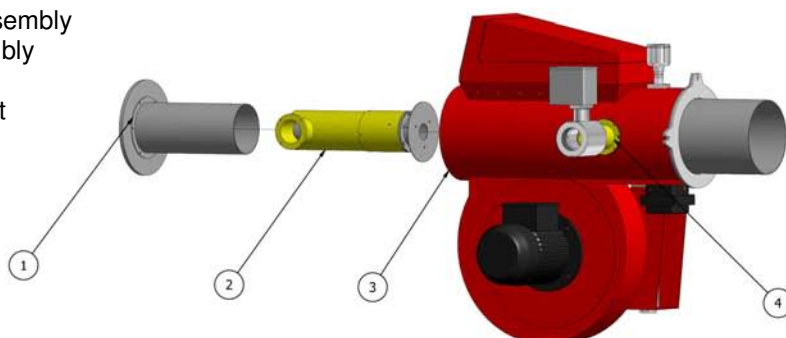
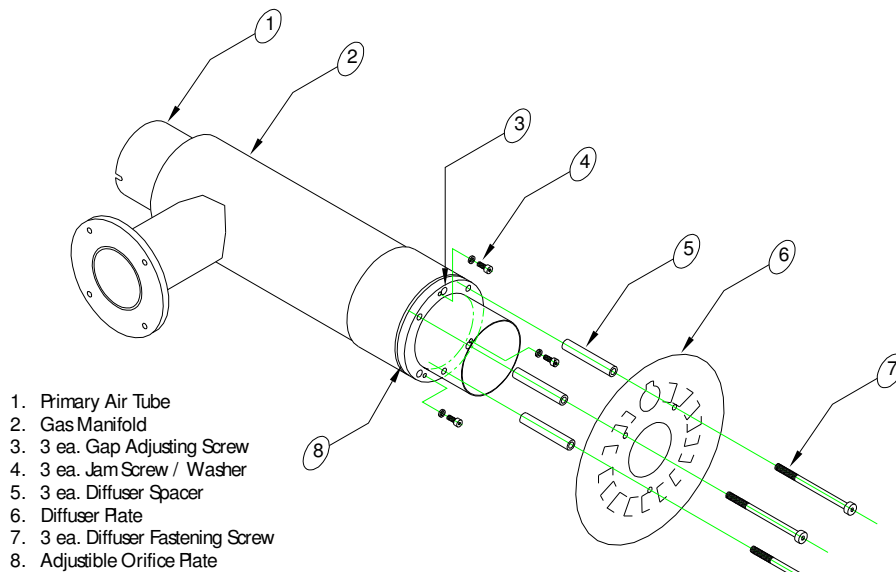

Figure 4: Gas Manifold removal
Figure 5: Gas manifold assembly
Step 1: If the burner is equipped with a proven gas pilot (LP3 range), the pilot injector disc must be removed. Loosen set screw to allow for removal of the pilot injector disc assembly (figure 4).
Step 2: Remove 3 ea. Diffuser fastening screws (item 7) and diffuser standoff pillars (item 5).
Step 3: Loosen 3 ea. Jam screw/washer (item 4) on the orifice plate.
Step 4: To DECREASE the gap setting, rotate the gap adjusting screw (item 3) clockwise as illustrated in Figure 5 on the next page. To INCREASE the gap, rotate counter-clockwise. Using a measuring scale or gap gauge, adjust all three screws so that the gap setting is equally maintained around the circumference of the assembly. The orifice plate is free to slide along the primary air tube (item 1).